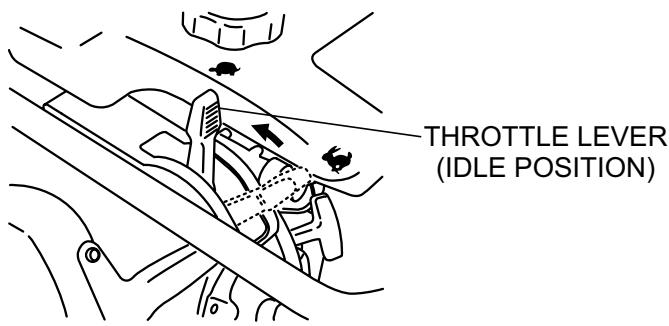
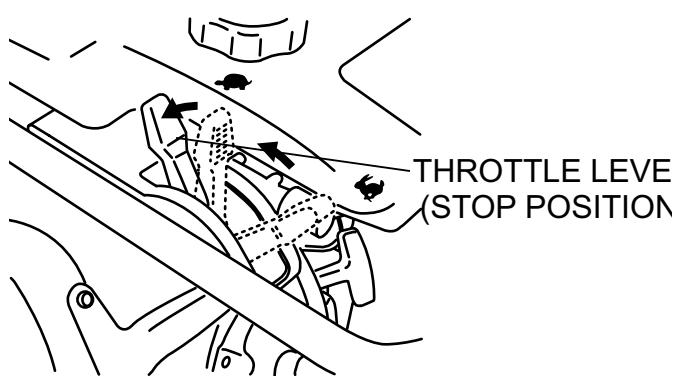

Figure 6. Throttle Lever (Idle Position)
Figure 10. Throttle Lever (Stop Position)
1. Slide the throttle lever from the stop to the idle position (→) (Figure 6). This opens the fuel cock and the engine electrical circuit is turned on automatically.
3. To stop the tamping action, move throttle lever quickly from **START** to **IDLE** position (Figure 6).
1. Move throttle lever quickly from the **START** to **IDLE** position (Figure 6) and run the engine for three minutes at low speed. After the engine **cools**, move the throttle lever to the **STOP** position (Figure 10). The engine will stop and the fuel cock is automatically closed.